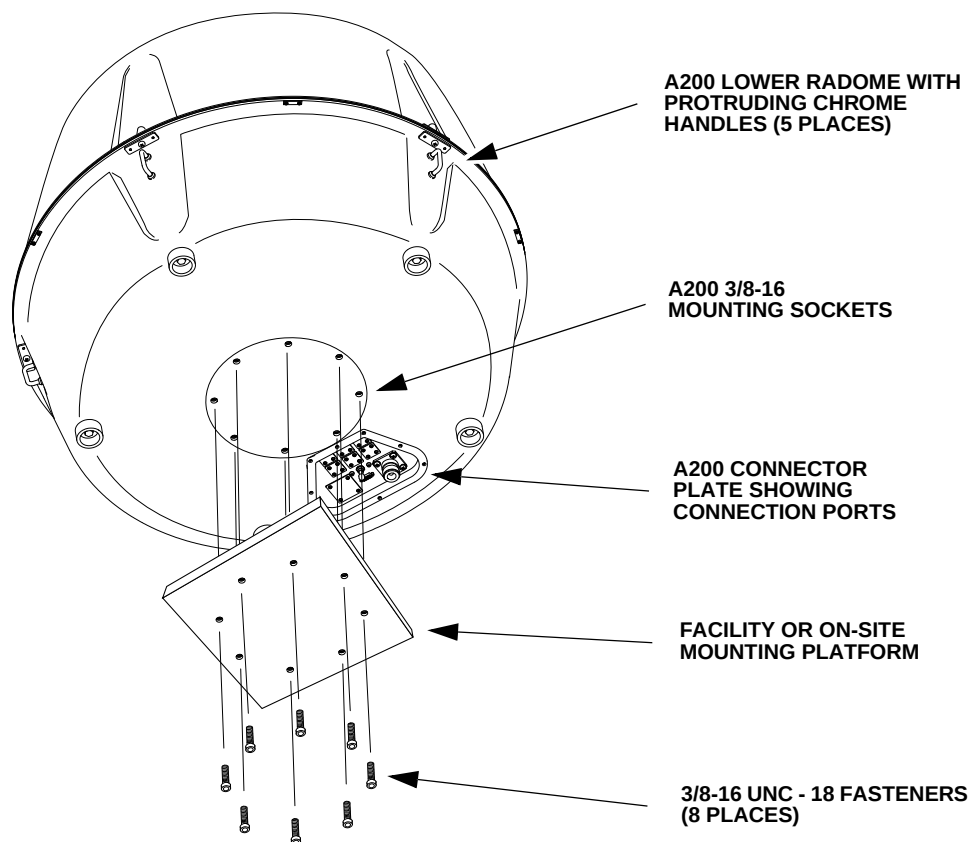

Figure 2-1. A200 Mounting Configuration
The five (5) chrome handles located on the exterior lower radome shell (refer to Figure 2-1) are mounted with 8-32 fasteners. These handles are sturdily mounted to the antenna frame but are intended for general light handling of the assembly. Use these handles for hand-carrying over short distances as well as for aligning and adjusting the antenna during mounting or servicing.
The antenna assembly is mounted using eight (8) 3/8-16 fasteners that mount the bottom of the assembly to the receive site mount (refer to Figure 2-1).
The A200 antenna assembly is designed for simple and efficient mounting onto a standard fixed, portable or mobile mounting platforms including towers, heavy-duty tripods or even moving vehicles. The antenna assembly is mounted using eight (8) 3/18-16 fasteners that mount the bottom of the assembly to the receive site mount. For details regarding the A200 mounting configuration, refer to Figure 2-1.